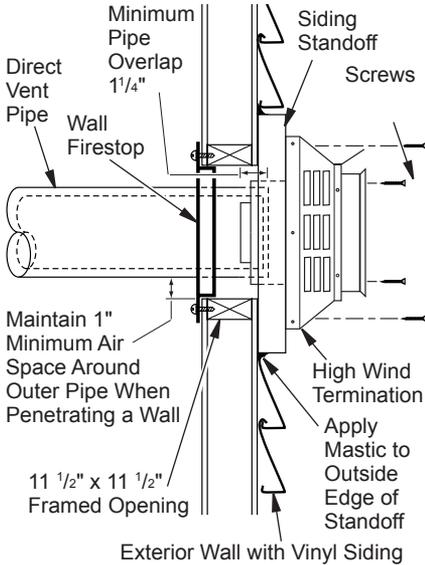

Figure 13 - Typical Horizontal Termination Cap Mounting with Additional Siding Standoff Installed
7. Carefully move fireplace, with vent assembly attached, toward wall and insert vent pipe into horizontal termination. The pipe overlap should be a minimum of 1 1/4" (see Figure 13, page 11).
8. **Combustible Exterior Wall Only:** Slide wall firestop against interior wall surface and attach with screws provided. See Figure 13, page 11, for horizontal termination details.